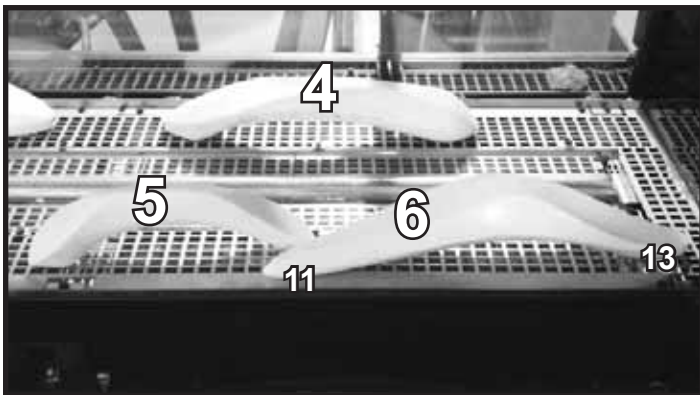

Figure 9. (SRV2310-756)
10. (SRV2310-756): Install Log #6 onto the shoulder screws by aligning the log placement holes with shoulder screws #11 and #13. See Figure 9.